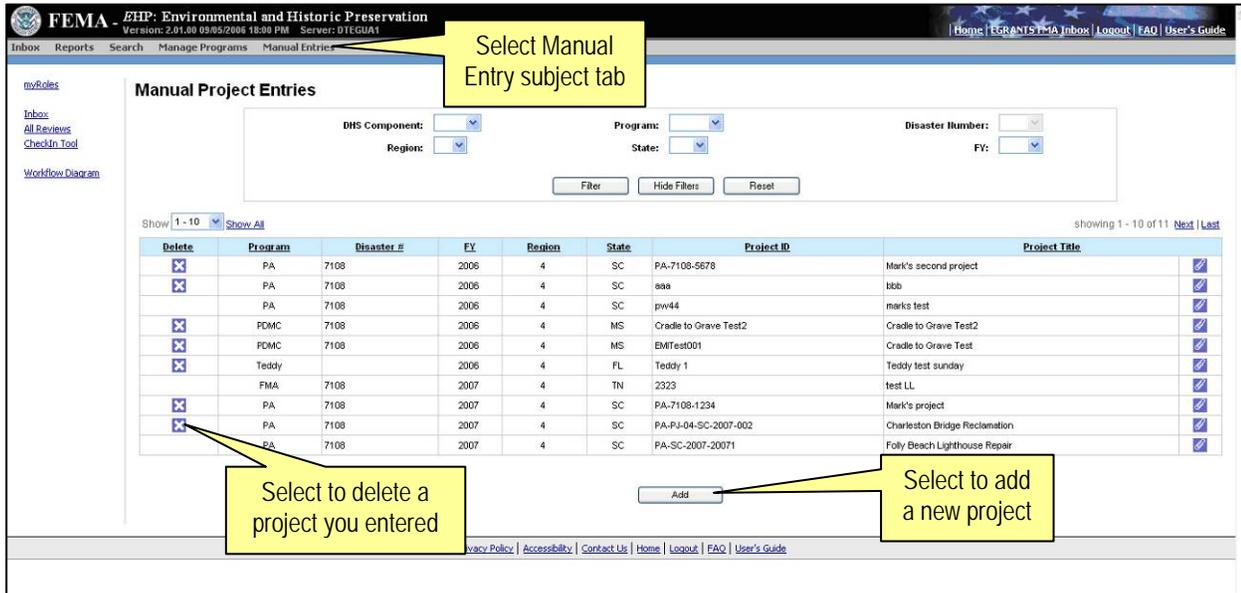

Figure 6.9: Manual Project Entries
- Select the **Add** command button from the bottom of the *Manual Projects Entries* screen (Figure 6.9).